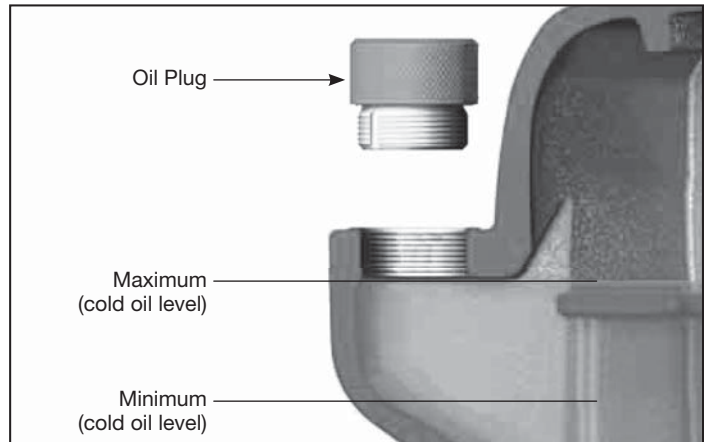

Figure 7 - Oil Level
**CAUTION** THIS UNIT CONTAINS OIL. Before operating compressor, check oil level (see Figure 7).
### OIL LEVEL CHECK (See Figure 7)
5. If necessary, top off oil of the same oil type and the same brand up to the maximum level (see Figure 7 and Lubrication section).
1. Check oil level (See Figure 7).